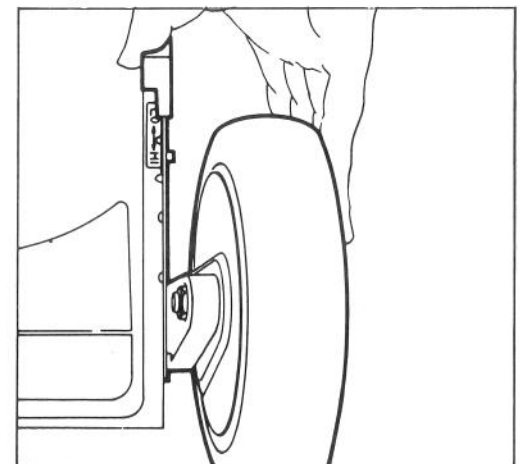

Figure 7
2. For easier adjustment, lift housing up so wheel is off ground. Squeeze adjusting lever toward wheel (Fig. 7) and move them to desired setting. Assure pin on adjusting lever engages notch in housing. Adjust all wheels to the same setting.